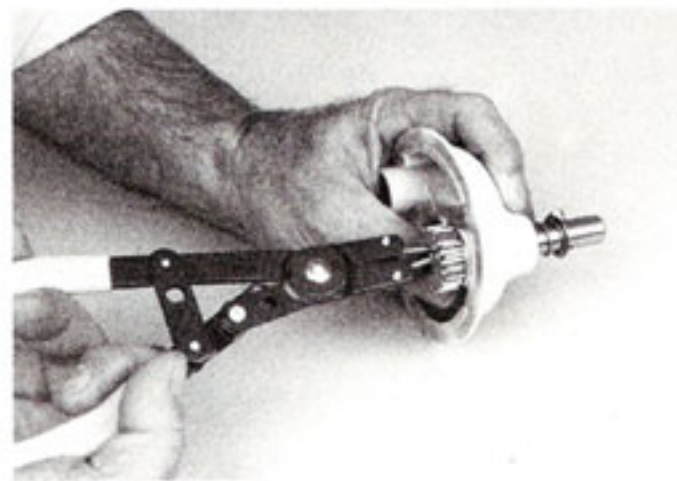
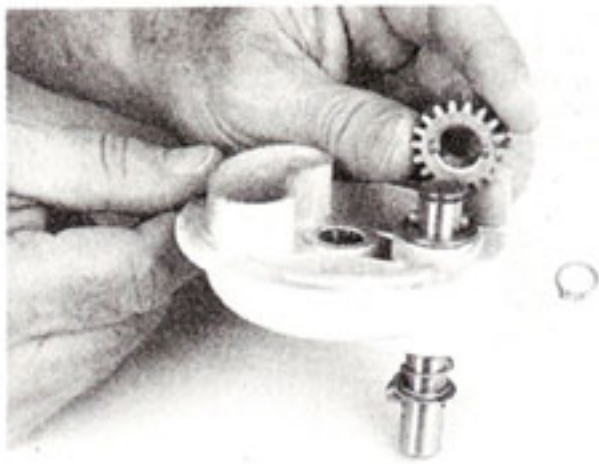

Fig. 66
Fig. 67
- R. Check the condition of the planetary. If there is any play in the agitator shaft and the bearing (not shown), replace the planetary and the shaft. The bearing is an integral part of the planetary. Hold agitator shaft firmly and remove pinion retaining clip (Fig. 66). Lift off the pinion. Take out the pin and remove the washer (Fig. 67). Pull out the agitator shaft (Fig. 68).
- S. The agitator shaft is complete as an assembly. Oil the shaft and push it up into the bearing as far as it will go. Place the washers on shaft. Place the pin through the shaft. Set the pinion gear on shaft and straddle the pin. Place the retaining clip on shaft (Fig. 66).